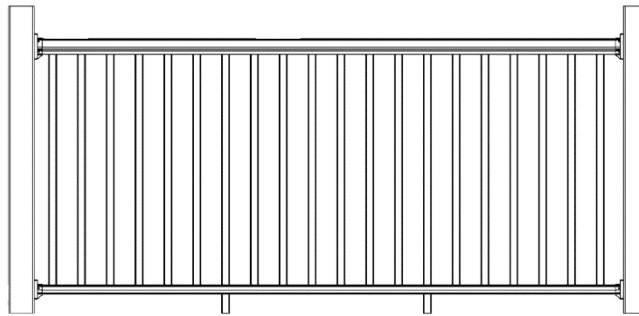

FIGURE 1 – CLASSIC GRAB & GO PREMIER M-PVC GUARDRAIL SYSTEM
**3.4.1** Classic Grab & Go Guardrail System (see Figure 4), and Classic Grab & Go Premier (see Figures 1, 5, and 6), comprised of independent coextruded profiles for the top and bottom rails. Balusters are a 1.25-inch-square coextruded profile (see Figure 10) or *Classic* round aluminum balusters (see Figure 9).